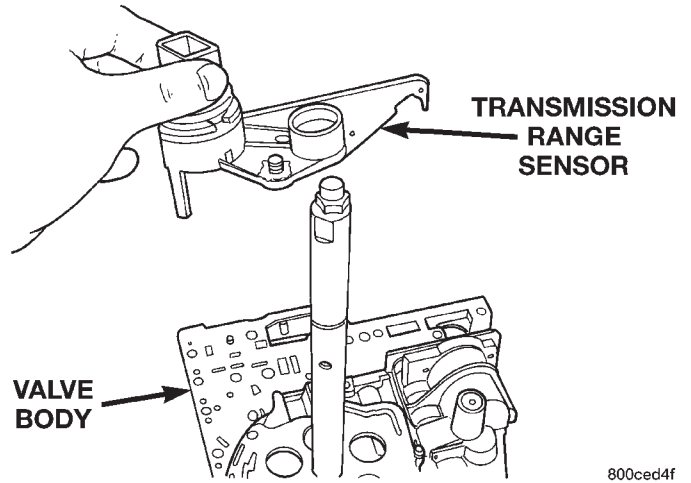

Fig. 37 Remove Transmission Range Sensor
- (14) Slide Transmission Range Sensor up the manual shaft and remove (Fig. 37).